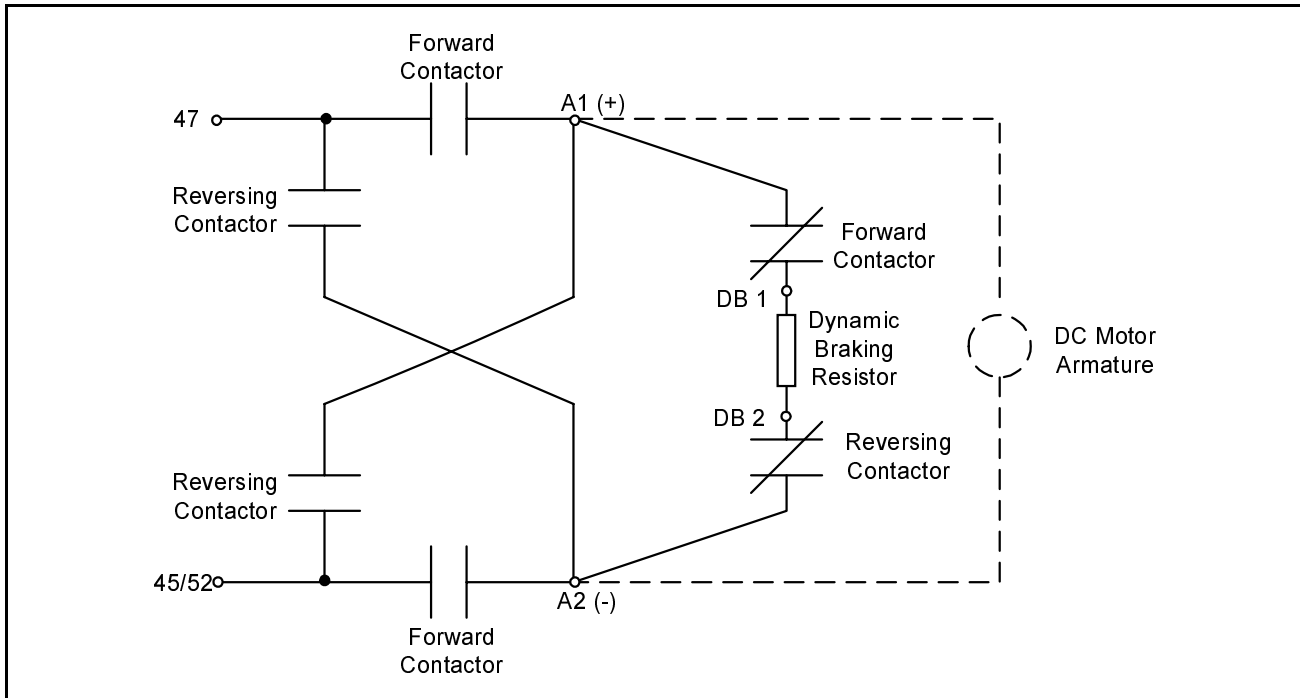

Figure 4 – Dynamic Braking Resistor Schematic for Non-Regenerative Drives with a Reversing Contactor
- Step 9. **For non-regenerative MinPak Plus DC drives with a Reversing Contactor:** Connect the dynamic braking resistor between corresponding normally closed (NC) contacts on the forward contactor and the reversing contactor. These contacts are to the rear of the contactors. This places the resistor across the motor armature (A1 and A2) when the contactors are de-energized. Refer to figures 4 and 6.